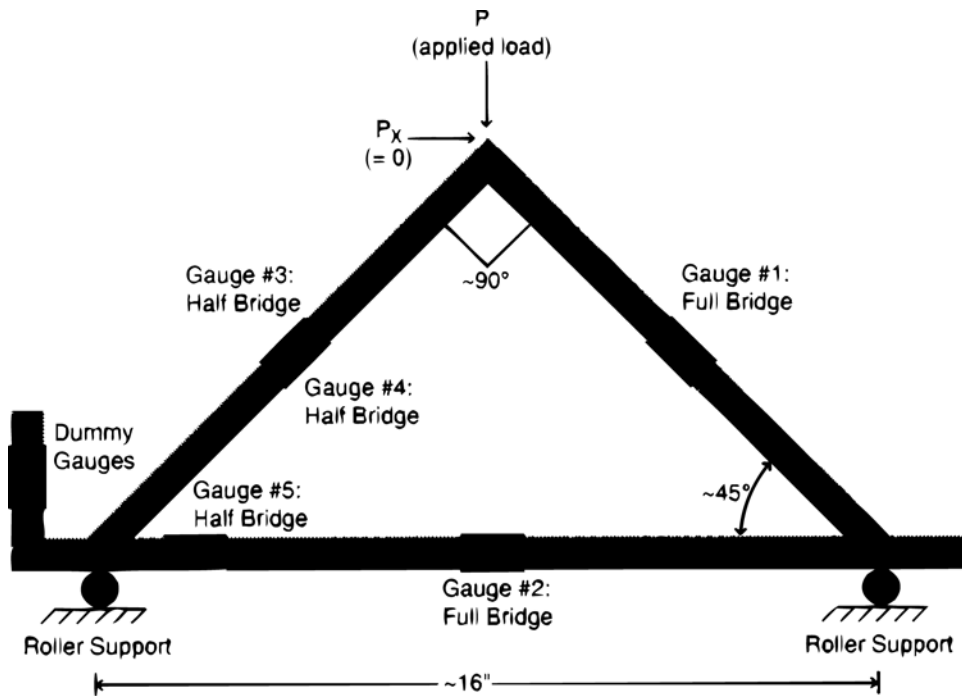

Figure I.1a: Side view of the small truss
- 7) From the laws of statics, calculate the forces in the bars of the truss for an applied load P . Your calculations must show at least two free body diagrams (FBD). One FBD should be of joint A, and the other of joint B. See Figure I.1a. You will need these equations to perform the lab.
- 1) The structure is composed of one symmetric, plane, welded aluminum truss. It is loaded at the midpoint and supported at the ends. (Figure I.1a).
- 4) Wire strain gauges (attached to the truss bars). (Figure I.1a).
These equations of statics may be applied to a free body diagram of each pin connection, each bar, or any other section of the truss one may choose. For a determinate truss, of which figures I.1a and I.1b are examples (with the pinned joint assumption), the equations of statics are sufficient to determine all of the bar forces. The methods for doing this are given in the Beer and Johnston *Statics* text in sections 6.1-6.4 and 6.7. Briefly summarized:
- 1) Between the joint A and the joint B (see Figure I.1a) is the bar AB. This bar has a force applied at each end from the joints. The pinned connections are assumed to allow free rotation so no couple (moment) is transmitted to the bar. The free body diagram of bar AB is shown in Fig. I.2.